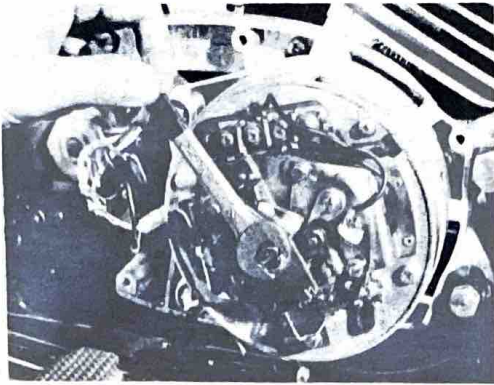

Fig. 4-1-9
7. Remove the armature bolt. (Figs. 4-1-9 and 10)